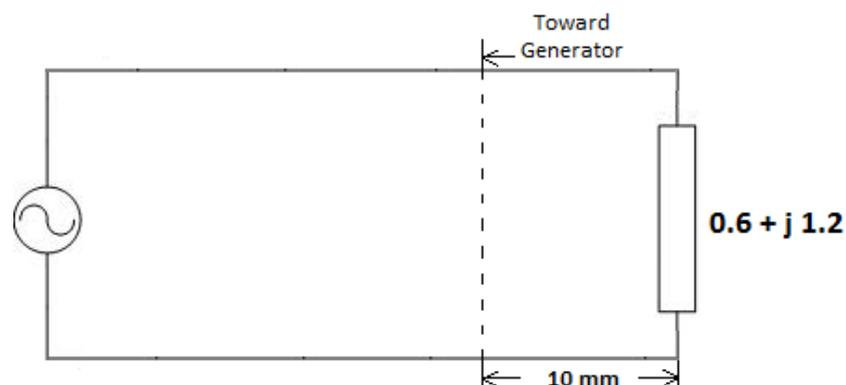

Figure 4.6.1. Sample problem for the Smith chart.
- a. Find the impedance 10mm from the load (see Figure 4.6.1).